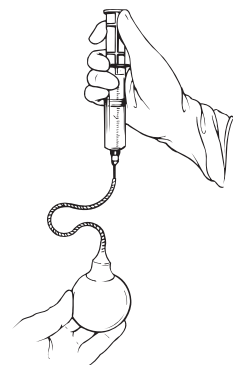

Figure 4-10
2. Holding the reservoir, attach 15-gauge blunt tip needle and a 60 cc syringe that is partially filled with sterile normal saline to the reservoir (**Figure 4-10**).